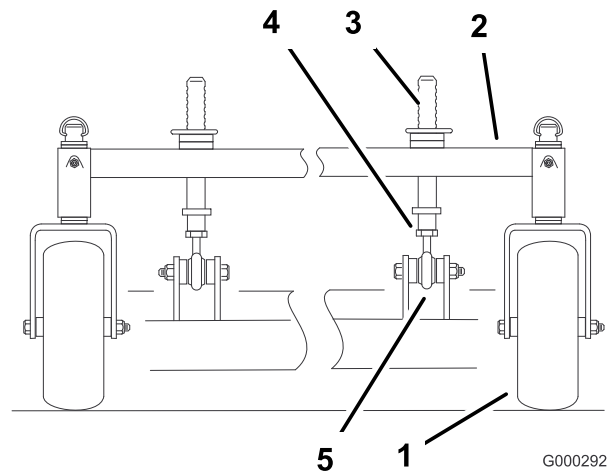

Figure 60
2. To raise the front of the deck, loosen jam nut and rotate the front pin clockwise (Figure 60).
3. To lower the front of the deck, loosen jam nut and rotate the front pin counter clockwise (Figure 60).
6. Tighten the jam nuts (Figure 60).
1. To change the front-to-rear pitch, the front height-of-cut posts can be adjusted (Figure 60).